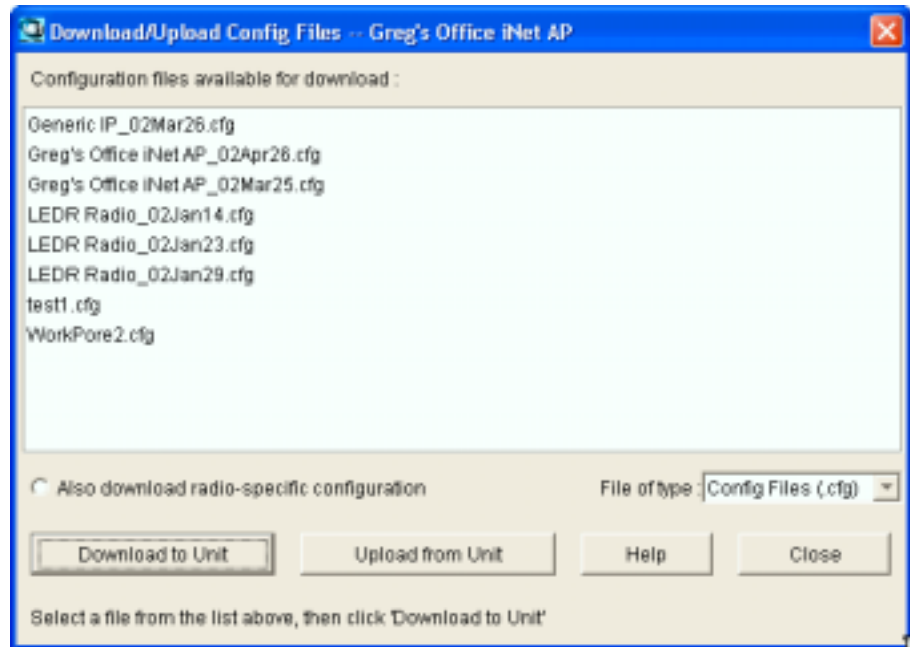

Figure 35. Download/Upload Configuration Files Screen
- b. Select **Tools>>Configuration>>Configuration Files** from the top menu bar. The screen shown in Figure 35 appears, listing the configuration files available for download to the unit.